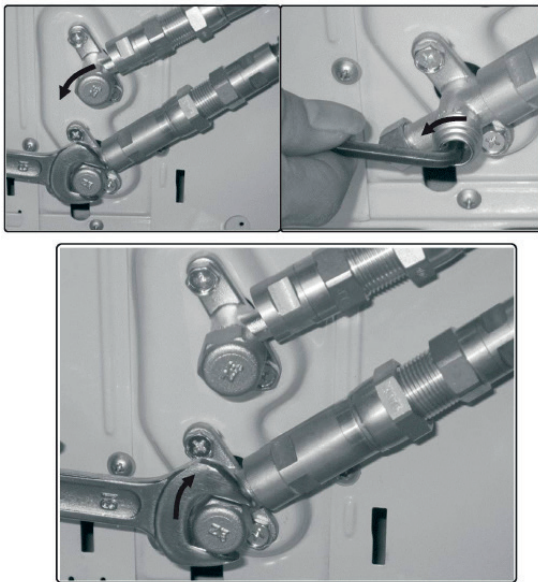

Fig. 6.6
6. Now re move the cover on the bottom valve using a 19 mm open-ended spanner. Open the valve by turning it counter-clockwise as far as it will go using a 5 mm Allen key. The valve is now open. If the valve is not opened fully, the system may malfunction and suffer damage. Screw the cover back on to the bottom valve and tighten it well to ensure that it is properly sealed. See Fig.6.6.